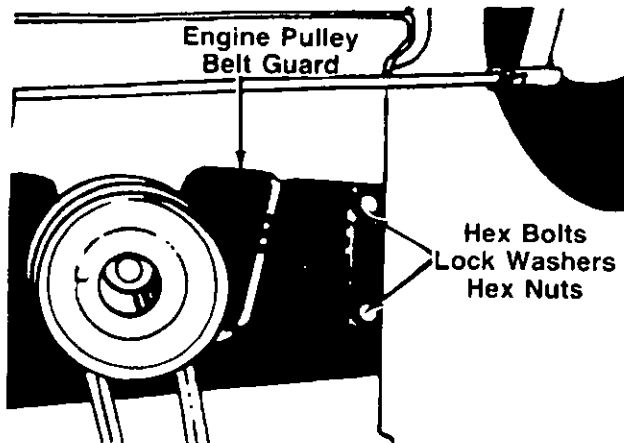

FIGURE 27.
5. Remove the two bolts, lock washers and nuts on each side of the frame which hold the engine pulley belt guard to the frame. See figure 27.